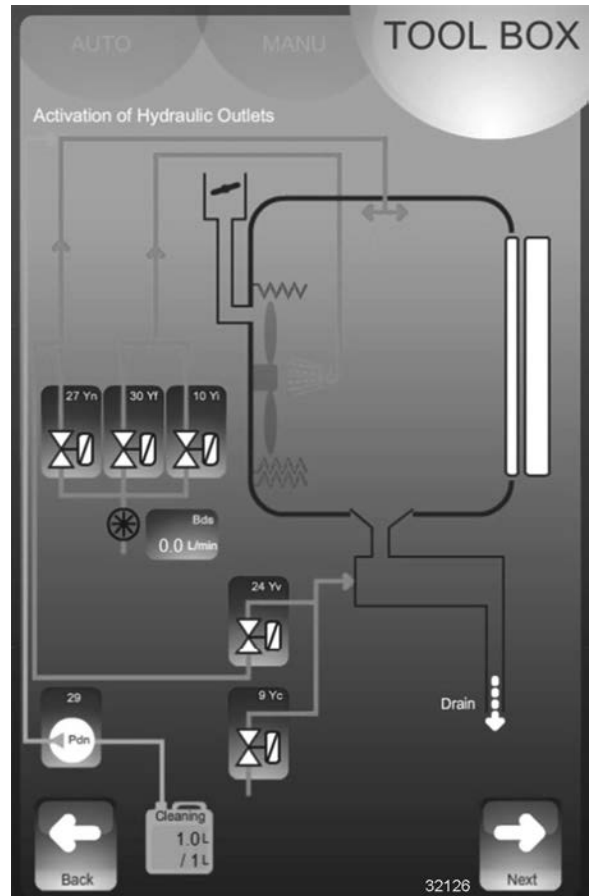

Fig. 98
6. Select **Next** icon to show **Activation of Hydraulic Outputs** screen (Fig. 98). Additional information is available in .